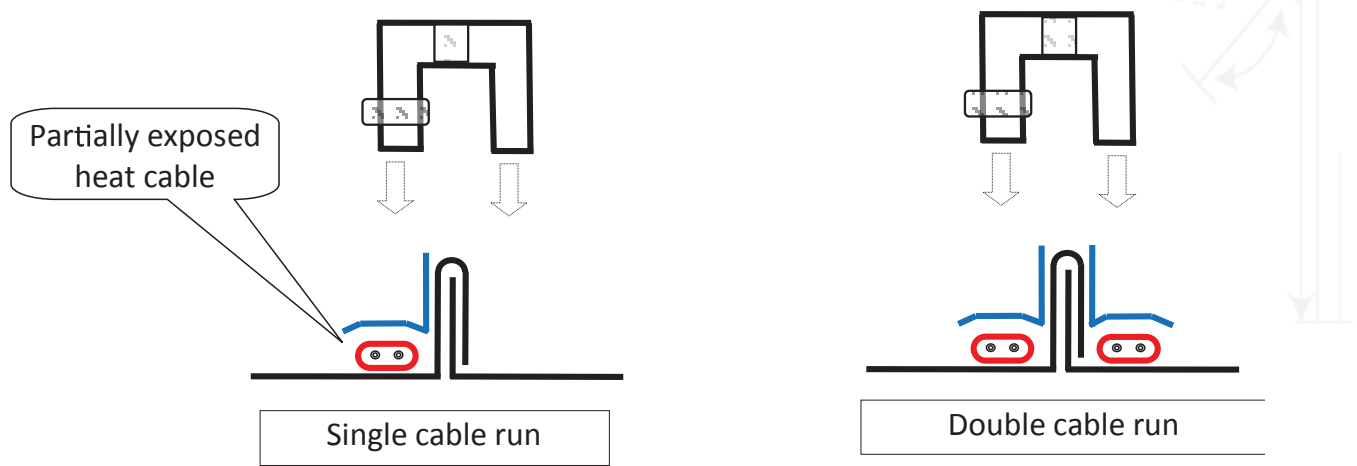

Figure 5 – HotSeam heat cable cover
4. **Important:** The HotSeam covers require a flat surface contact with the ice melt cable (Figure 5).
8. Secure the covers to the raised seam of the roof by installing the larger seam clamps every five feet over the seam covers. Tighten the side screw on each seam clamp. (See Figure 5)